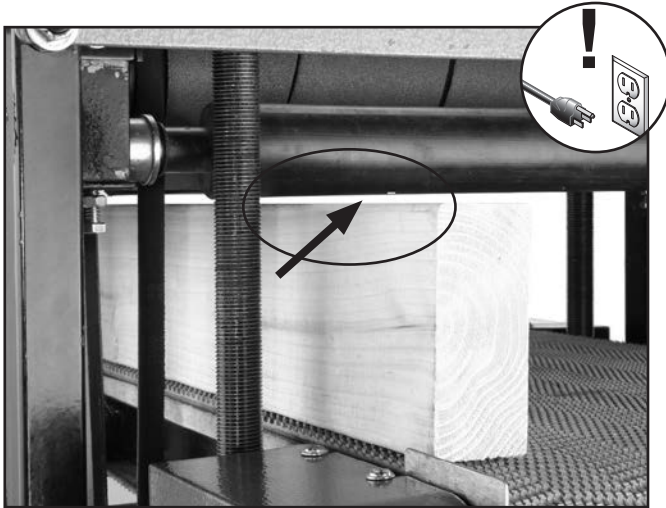

Figure 36. Gauge blocks below pressure rollers.
- Turn the crank handle three full rotations (counting from the point of actual table movement so handwheel freeplay does not affect your count) to lower the table so the gauge blocks are below the pressure rollers, as shown in **Figure 36**.